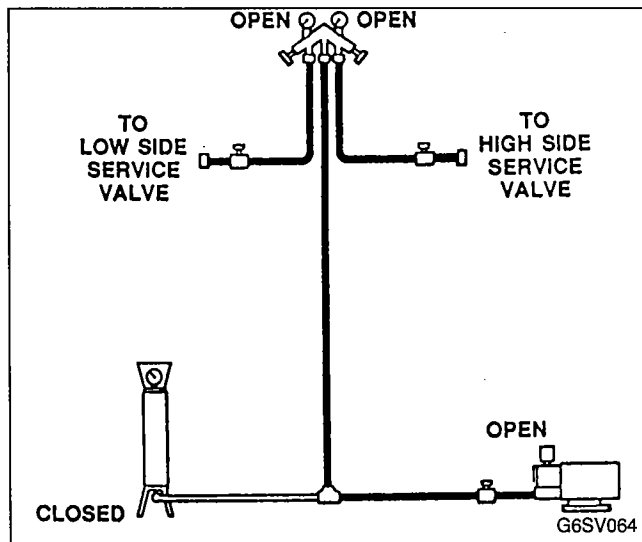

FIGURE 66. EVACUATION OF SELF-CONTAINED SYSTEMS
- b. Discharge service valve.Connect manifold gauges, dial-a-charge (or weigh-in method), and vacuum pump to ice machine, Figure 66.
2. Open (backseat) high and low side ice machine service valves. Open vacuum pump valve. Open high and low side on manifold gauges. Refer to Figure 66.